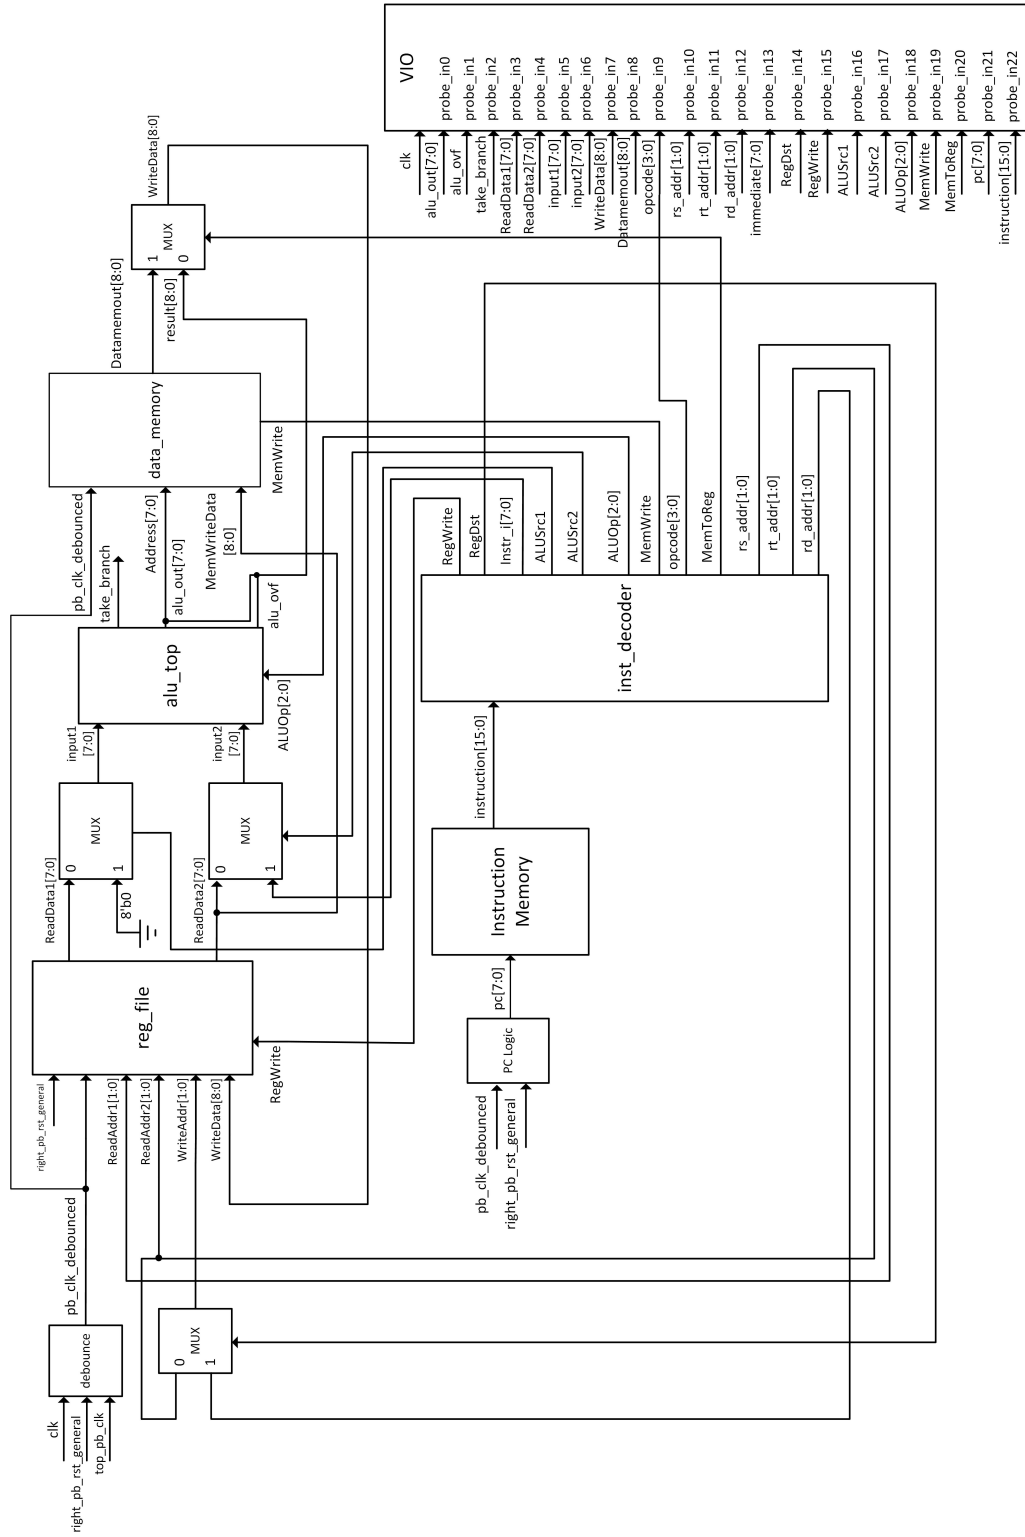

Figure 1: Computer with Instruction Memory and Program Counter
In this lab, you will add instruction memory to the computer you completed in Lab 6. You will need to add instruction memory as described below and a Program Counter (PC) to address the Instruction Memory (IM). Your instruction memory should be 16 bits wide by 256 entries. An instruction for the lab computer is 16 bits wide, and 16 bits is defined as a word in the IM. The IM is *word addressable*. Your top level design will connect the BTN1 button on the PYNQ board to all clock inputs, including the PC, memory and the register file. BTN0 is the reset button for the register file and PC. It also resets the *output* from the instruction memory, but does not touch the memory. DM does not have a reset. Figure 1 shows the top level design for this lab experiment.